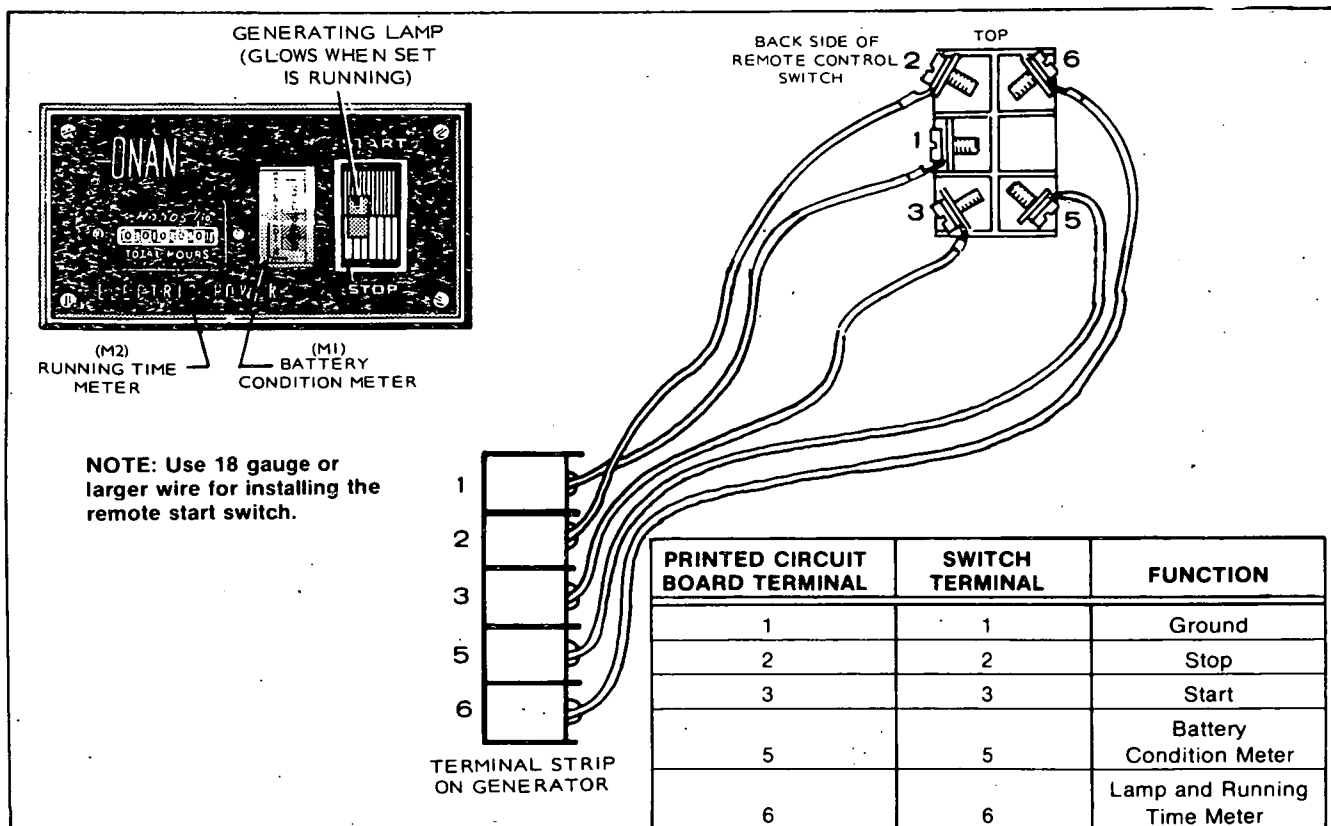

FIGURE 12. CONNECTING DELUXE REMOTE CONTROL (300-0986)
2. Following national and local electrical codes and using five insulated wires of predetermined length (#18 or larger), connect remote control to terminals on generator. Ensure that leads from remote control connect to corresponding terminals on generator terminal board. See Figure 12.